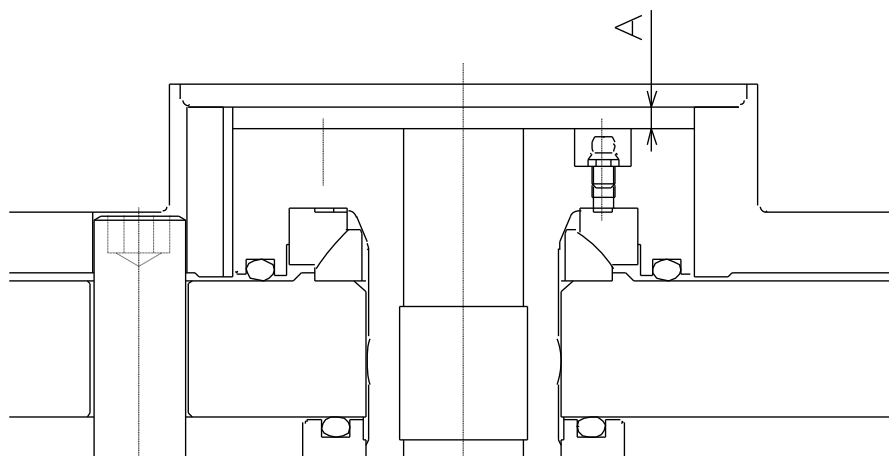

Fig.11
5. Using the connecting handle [H], as shown in Fig.11, adjust the position of plunger [D] and install the key plate [S] with the socket head cap screws [01]. Then, move the chuck over full stroke to check that the specified stroke is obtained.